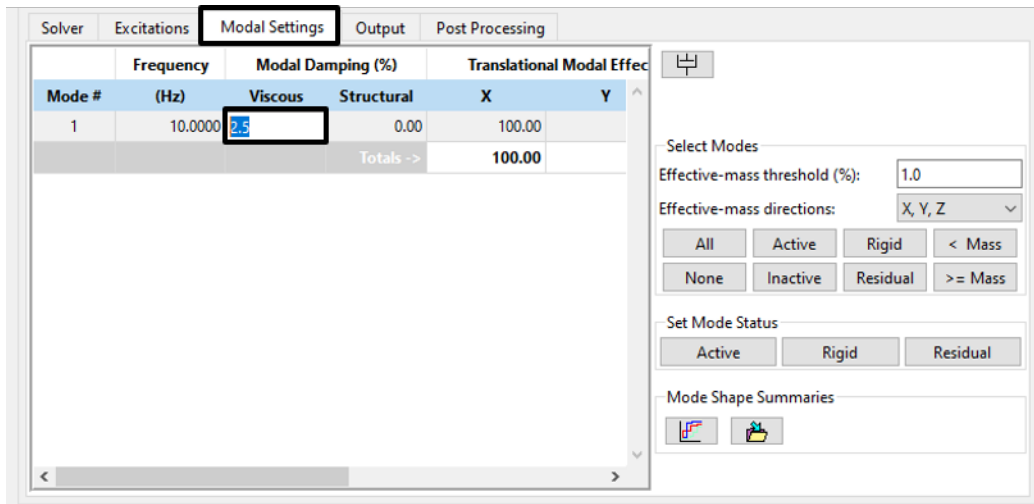

Figure 4-14. Assign 2.5% modal viscous damping to the mode directly in the modes table.
4. Assign 2.5% damping to the single mode. Select the *Modal Settings* tab, double-click in the *Viscous* cell under *Modal Damping* for the mode, and enter a value of 2.5 (Figure 4-14).